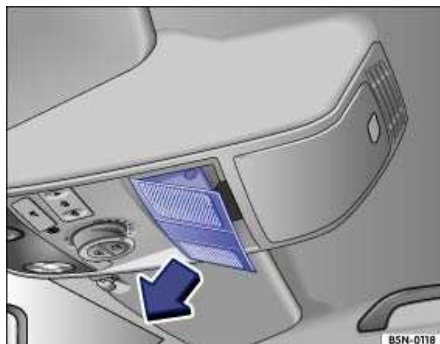

Fig. 38 In the headliner: removing cover.
- Remove the cover from the front edge in the direction of the arrow ⇒ Fig. 38.